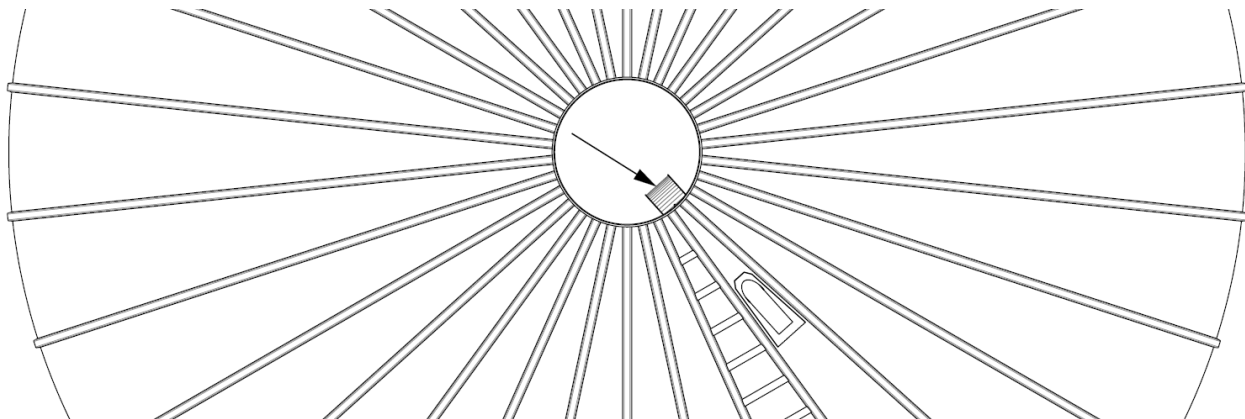
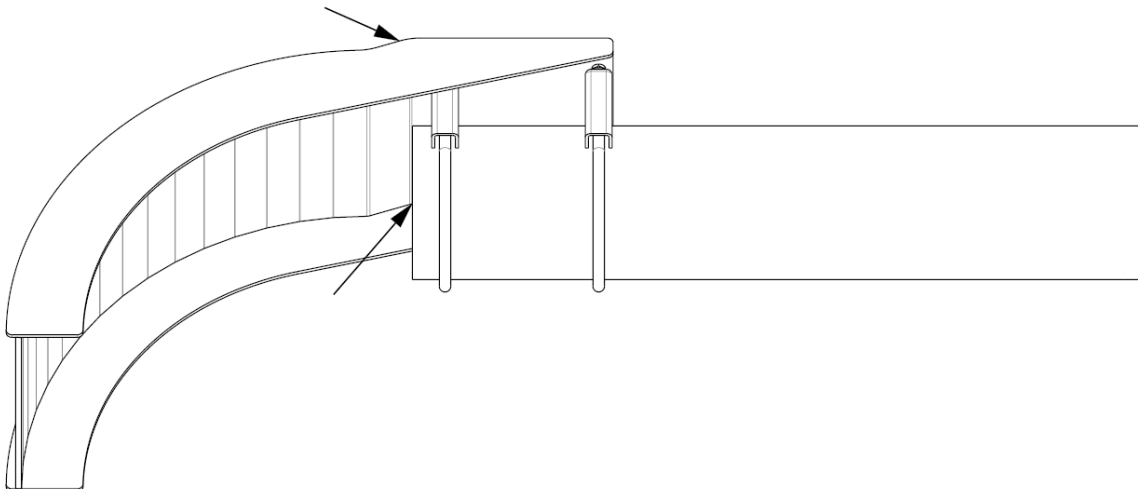

Figure 27: Recommended deflector positioning (top view)
Figure 29: Installation of deflector
9. Insert the flashing into the hole. Mark the end of the flashing tube at the length required for the installation of the deflector with reference to **Figure 29**. The deflector should be positioned such that the vertical edge of the deflector is just slightly past the edge of the bin opening, as seen in **Figure 27**. This allows sufficient space for an auger to load the bin without contacting the deflector while allowing the deflector to direct conveyed product towards the bin center to prevent side-loading.